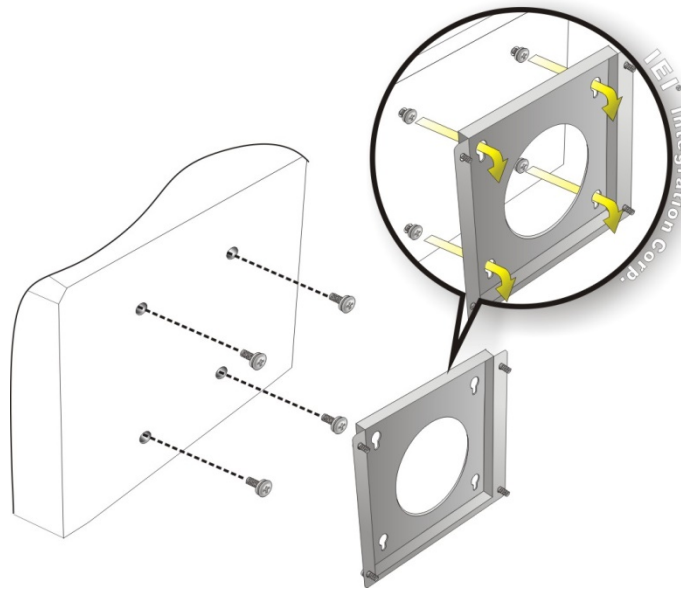

Figure 3-12: Mount the Embedded System
- Step 6:** Insert the four monitor mounting screws provided in the wall mounting kit into the four screw holes on the bottom panel of the system and tighten until the screw shank is secured against the bottom panel (**Figure 3-12**).